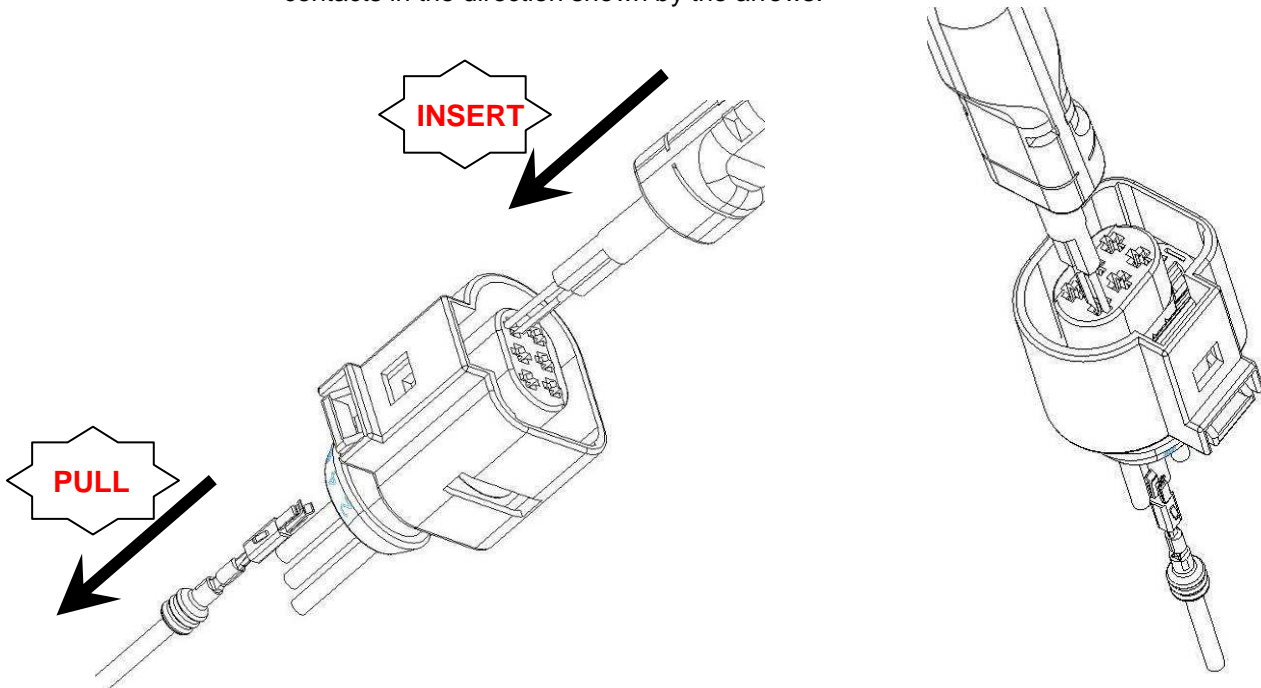

Figure 5
- 5.2 Insert the appropriate tool, see figure 5 to the relevant seats of the cavities, and then pull the contacts in the direction shown by the arrows.